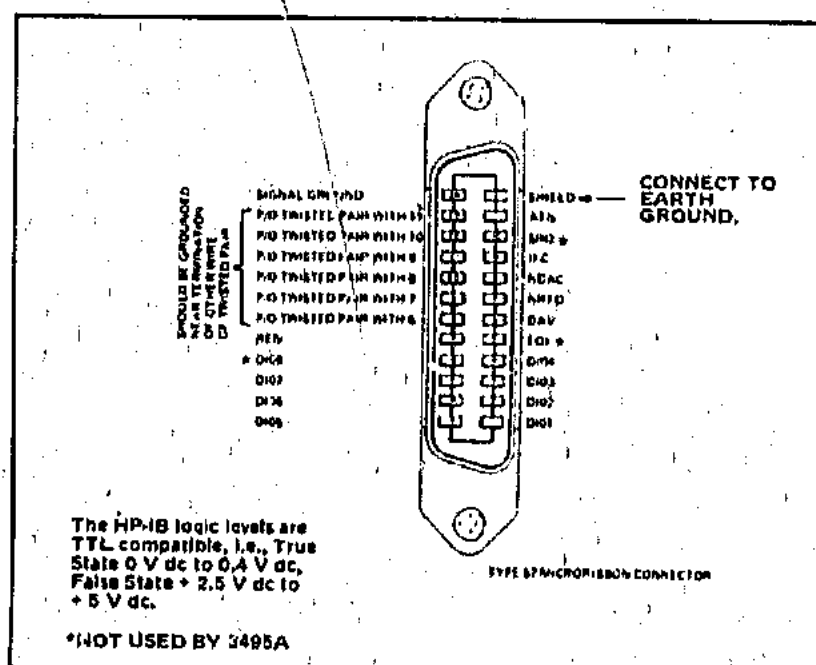

Figure 2-4. HP-IB Connector.
- 2-38.** Figure 2-4 shows the pin configuration of the HP-IB connector on the 3495A Scanner.